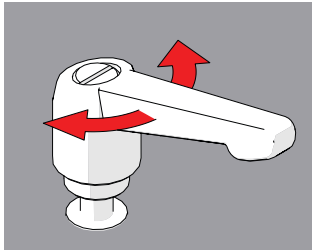

Fig. 58 - Rotate handle
2. Continue to pull while rotating the lever in the appropriate direction (Fig. 58).